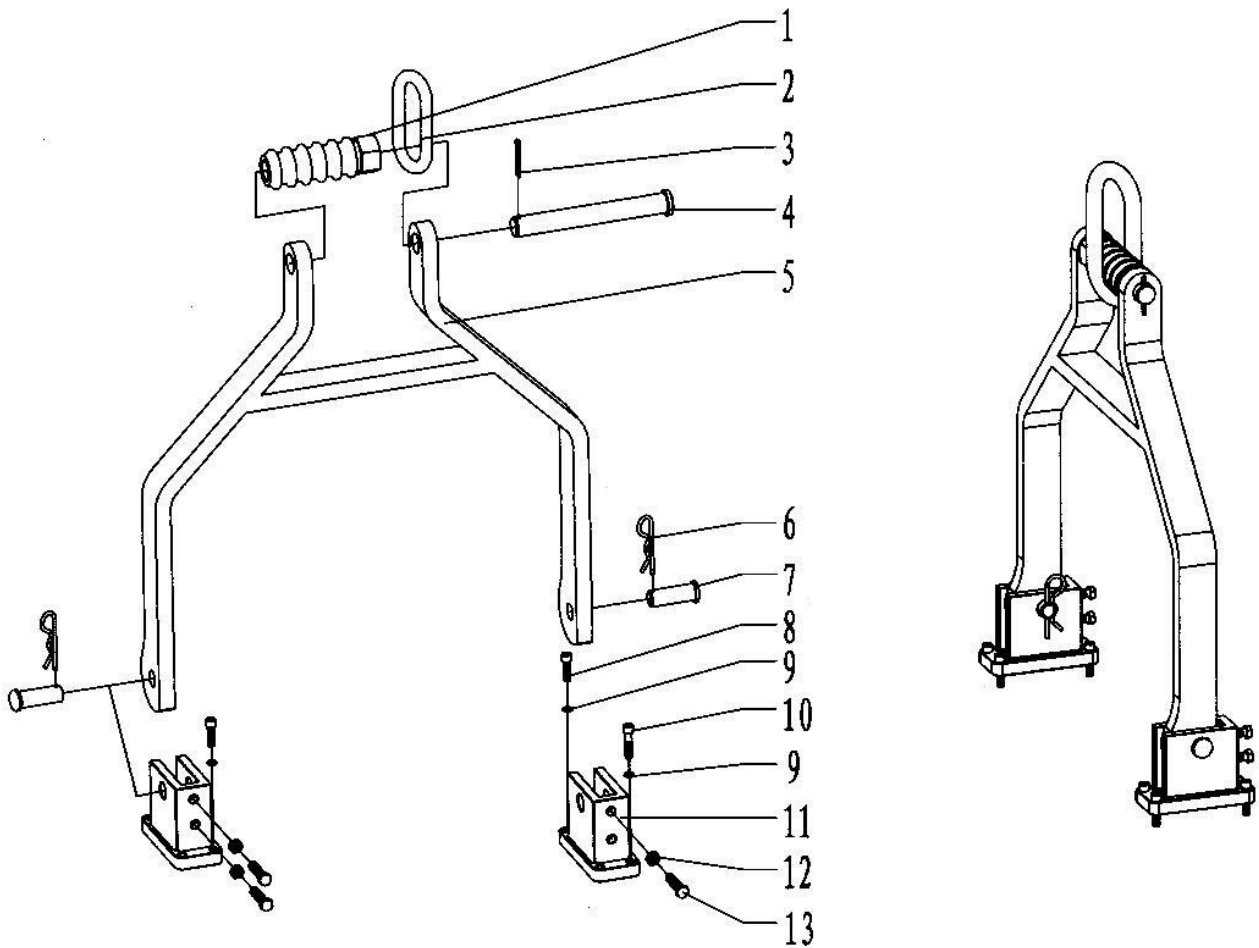

Fig 19
7.19 Suspension Bar (Fig 19, Table 19)